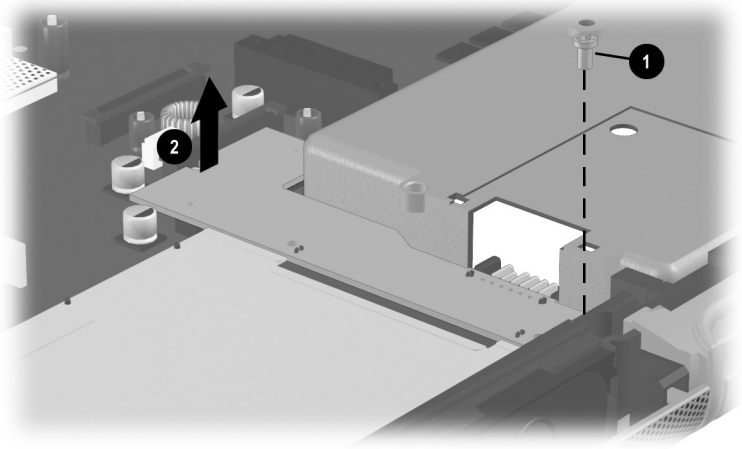

Figure 5-39. Disconnecting the Charger Board
2. Remove the silver TM2.0 × 5.0 screw ❶ that secures the charger board to the system board (Figure 5-39).
3. Lift up on the back edge of the charger board ❷ to disconnect it from the system board.